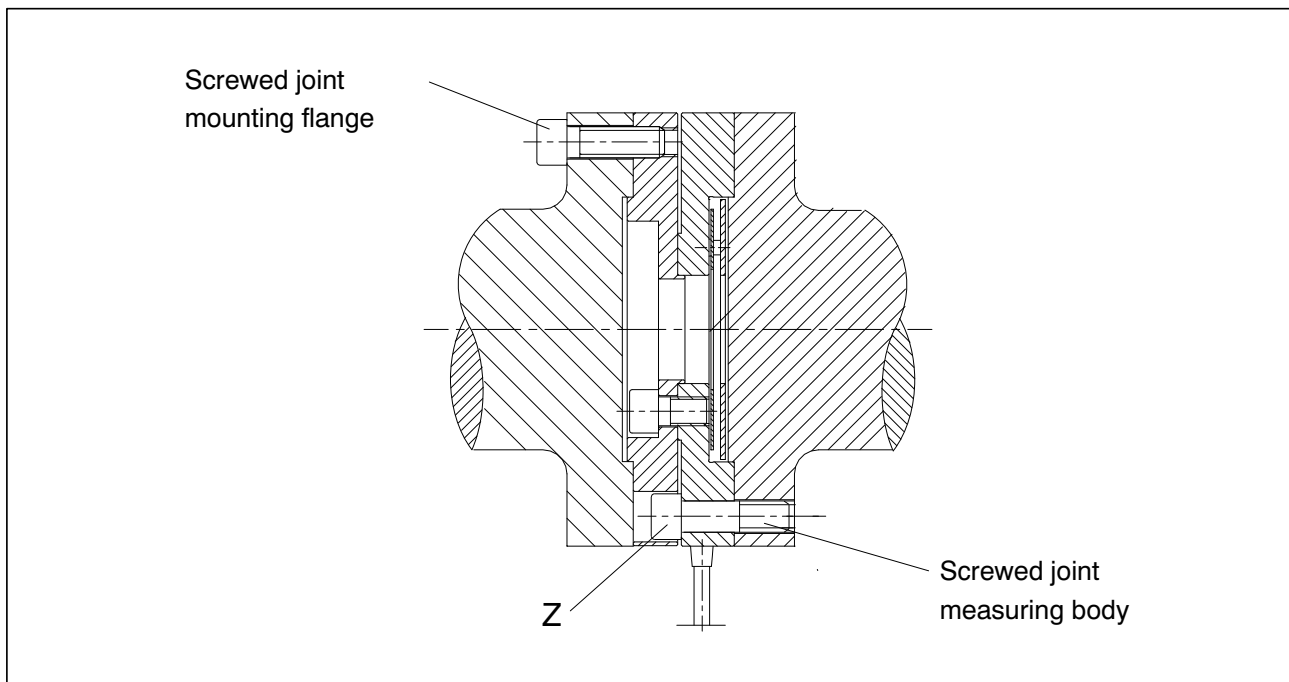

Fig. 4.3: Screwed joint of the measuring body
The screw heads (Z), see Fig. 4.3, must not sit on the mounting flange. With alternating loads: glue all the connection screws into the counter thread with a screw locking device (medium) to exclude a pretension loss due to screw slackening.